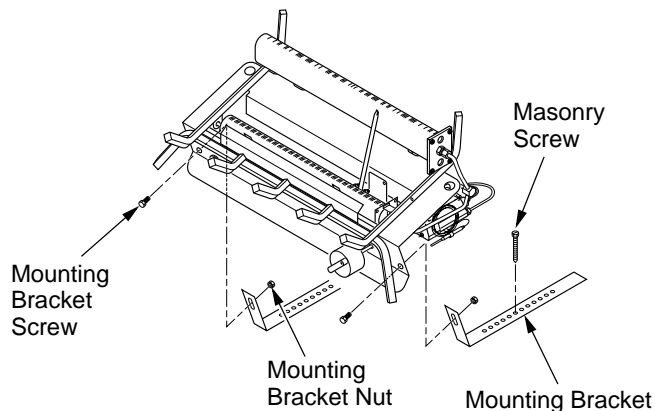
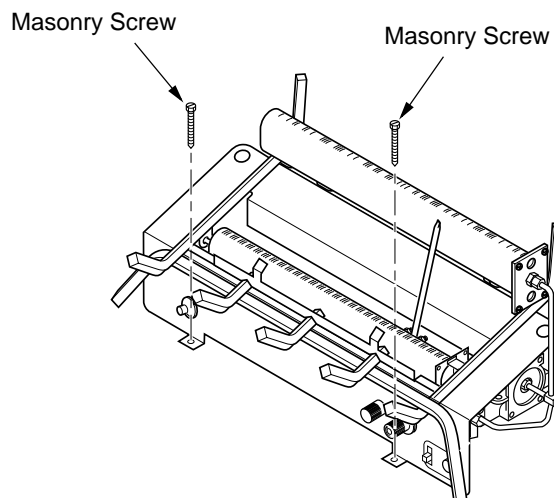

Figure 13- Attaching Heater to Fireplace Floor (Variable Manually-Controlled and Thermostatically-Controlled Models Only)
Figure 14 - Attaching Base to Fireplace Floor (Remote-Ready Models Only)
2. Locate mounting brackets, bolts, and nuts in hardware package (Variable Manually-Controlled and Thermostatically-Controlled Models Only). Attach mounting brackets to heater base (see Figure 13, page 11). Attach nuts finger tight.
4. For Variable Manually-Controlled and Thermostatically-Controlled Models mark screw locations through holes in mounting brackets (see Figure 13). For Remote-Ready Models mark screw locations through holes in front panel of base (see Figure 14). If installing in a brick-bottom fireplace, mark screw locations in mortar joint of bricks.
8. For Variable Manually-Controlled and Thermostatically-Controlled Models attach mounting brackets to fireplace floor using masonry screws provided in hardware package (see Figure 13). Reattach heater base to mounting brackets (see Figure 13). Tighten nuts firmly.
9. For Remote-Ready Models attach base, through holes in front panel of base, to fireplace floor using masonry screws provided in hardware package (see Figure 14).